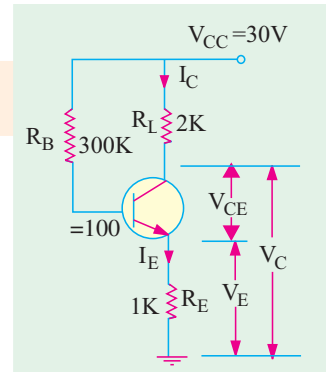

Fig. 58.9
1. base bias or fixed current bias (Fig. 58.9)
Example 58.5. For the circuit shown in Fig. 58.9, find (i) $I_{C(sat)}$, (ii) I_C , (iii) V_C , (iv) V_E , (v) V_{CE} and (vi) K_β .